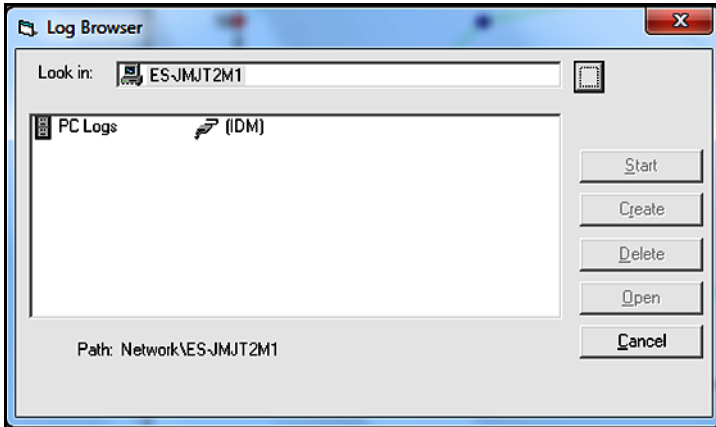

Figure 71: Log Type Selection
3. Double click on the *computer name* to advance to the dialog box shown in *Figure 71* below.